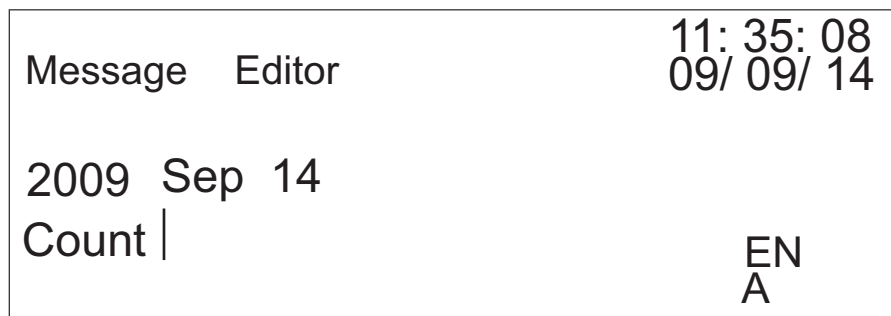

Figure 4-30: Insert Character
- 6 Press  to insert the letter 'C' to the current position. Press  to switch between the lowercase and uppercase input styles. Press   and  to insert 'o', 'u', 'n', and 't' into the message, as shown in the Figure 4-30.